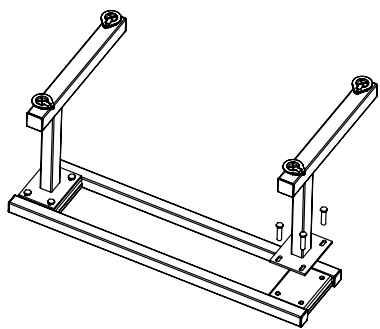

fig. 1
1. Attach legs to frame using 3/8"-16 Hex Head bolts. (fig.1)